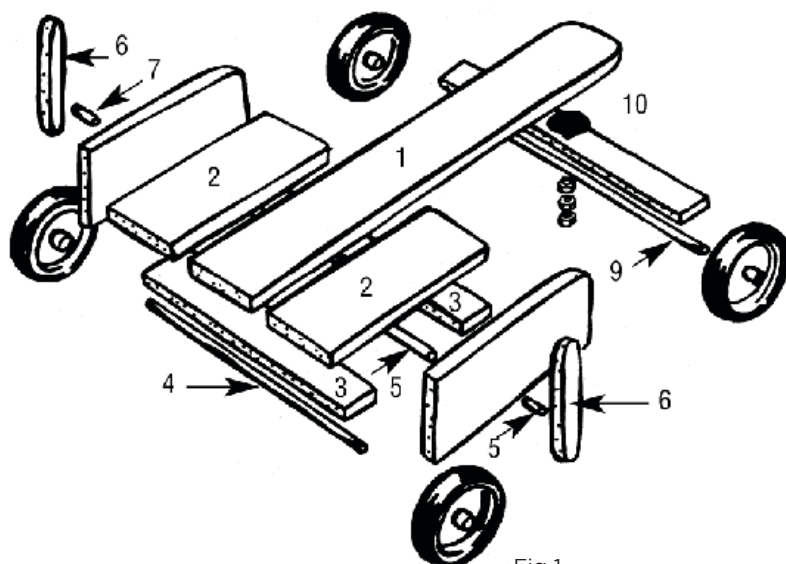

Fig 1.
1. Cut softwood parts [1 and 2] to length (Fig 1). Round off the top front corners of the sides and the front corners of the centreboard with a rasp.